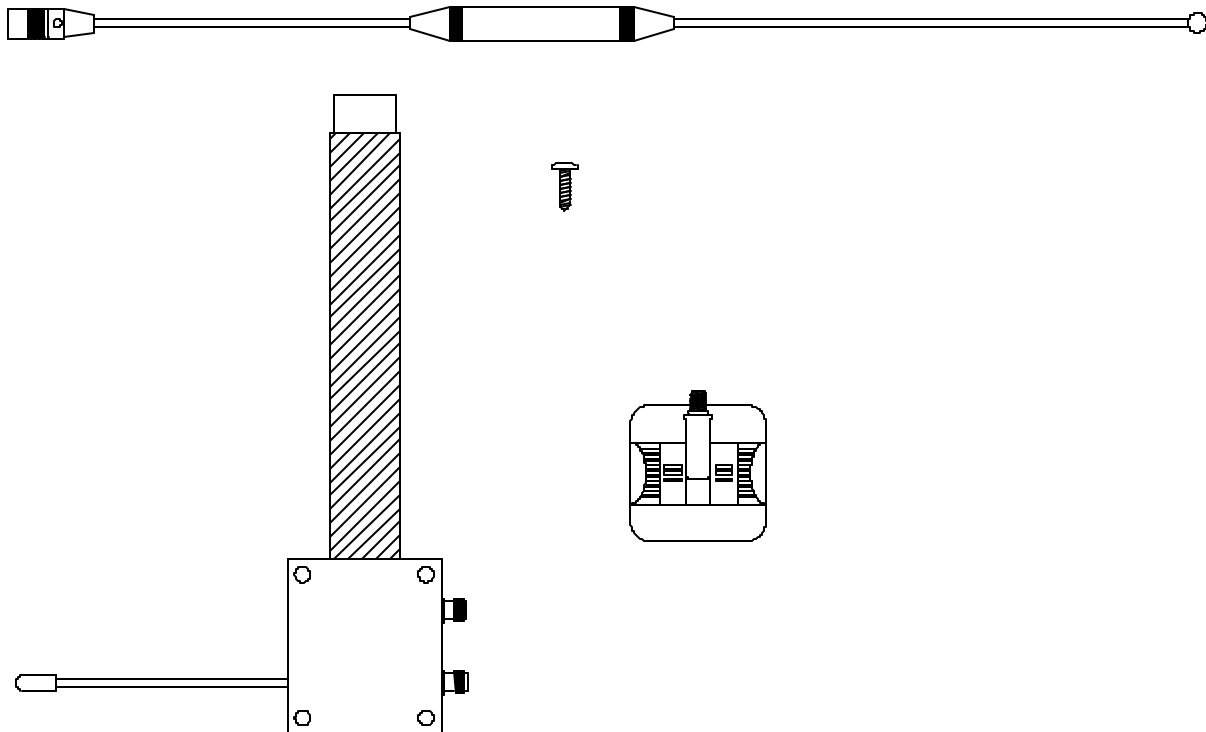

Figure 1 – General Assembly
1. **Part List:** The package includes an antenna, coupler, cables, mounting hardware and connectors for the two way-radio. Use only the components supplied with the antenna (Refer to Figure 1).